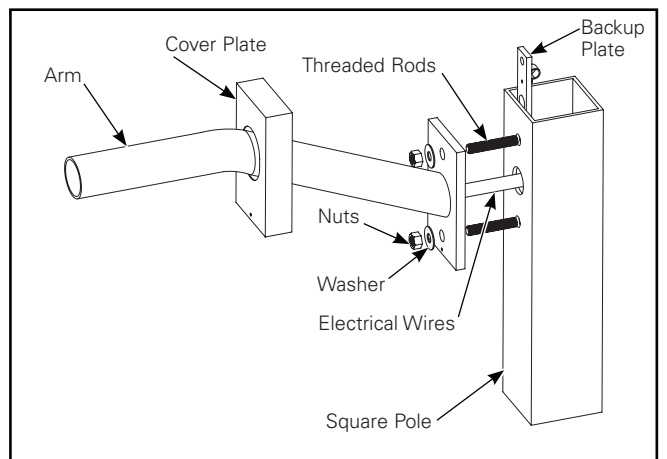
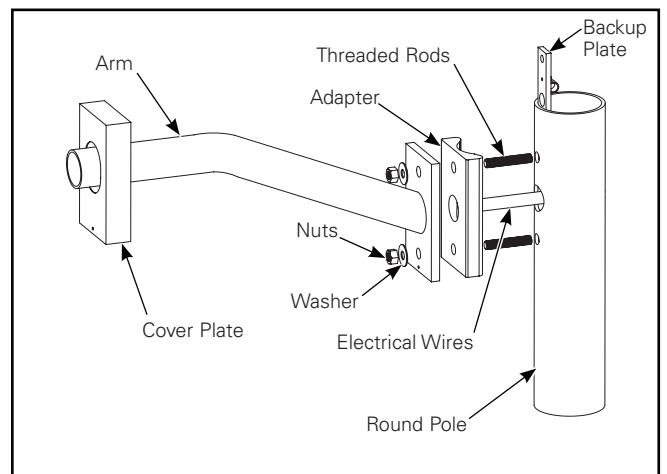

Figure 6.
Figure 7.
Mast Arm: Square Pole (Figure 6) and Round Pole (Figure 7)
3. For round poles only - Install round plate adapter with round side facing pole (Figure 7). Align holes top and bottom.